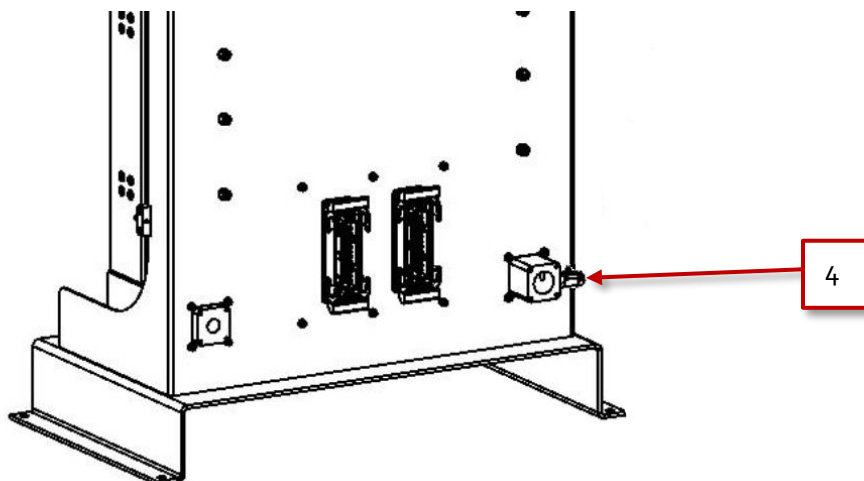

Figure 66 Open drain valve
4. Place a water container under the drain valve and open the drain valve gently to release the water pressure, see Figure 66.